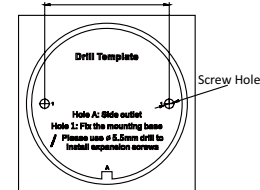

Figure 2-9 The Drill Template
1. Drill the screw holes in the ceiling according to the supplied drill template, as shown in Figure 2-9.